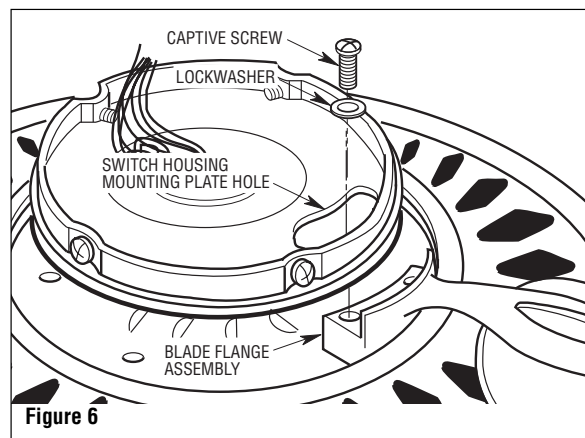

Figure 6
9. Loosely attach one blade assembly to the motor hub using the two 1/4-20 x 14 captive screws with lockwashers. Make sure the screws are **NOT** tightened. (Figure 6.) Repeat this procedure for other four blade assemblies.